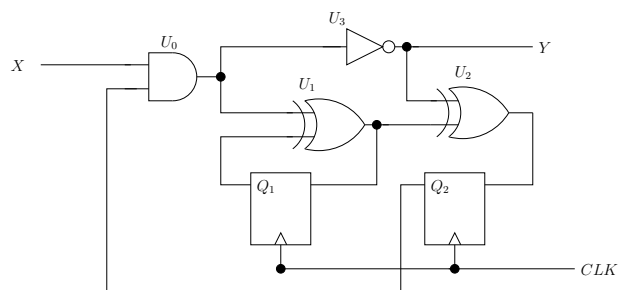

Figure 6: Finite State Machine
13. A finite state machine is shown in Fig. 6 where the INVERTER has a delay of 100ps, the AND gate has a delay of 200ps and the XOR has a delay of 300ps. Answer the following.